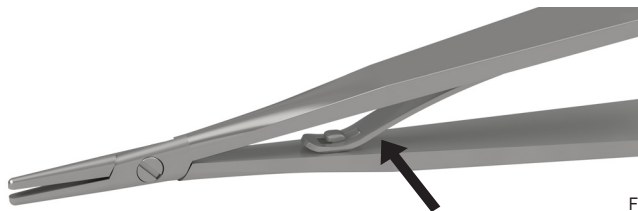

Fig. 2
- Locking in place or releasing of spring according to fig. 2:
- Open the spring according to fig. 2.